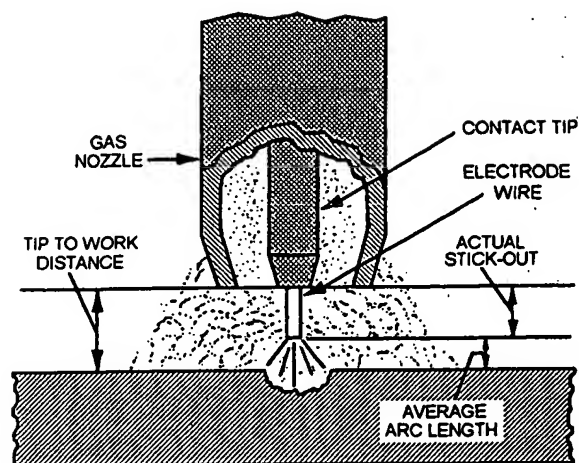

Figure 8-28.—Correct wire stick-out.
**WIRE STICK-OUT.**— In gas metal-arc welding, *wire stick-out* refers to the distance the wire extends from the nozzle of the gun (fig. 8-28). The correct amount of wire stick-out is important because it influences the welding current of the power source. Since the power source is self-regulating, the current output is automatically decreased when the wire stick-out increases. Conversely, when the stick-out decreases, the power source is forced to furnish more current. Too little stickout causes the wire to fuse to the nozzle tip, which decreases the tip life.